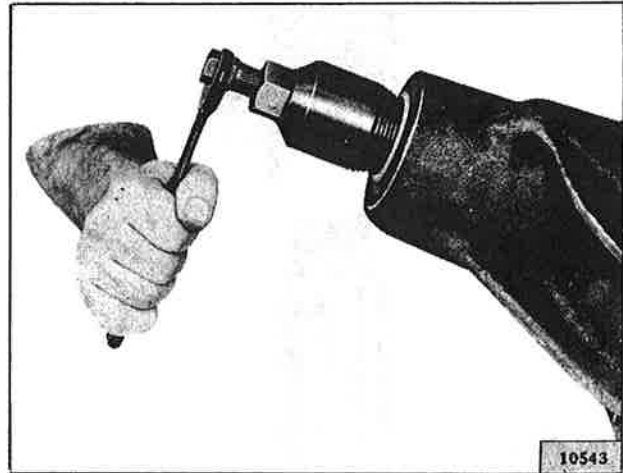

FIG. 244—REMOVING PINION SHAFT OIL SEAL
- i. Remove the pinion shaft oil seal. Use Puller, Tool W-251 as shown in Fig. 244.